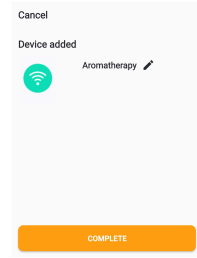

Figure 13
- (6). Device added, you can rename the device and click Finish (Figure 13).